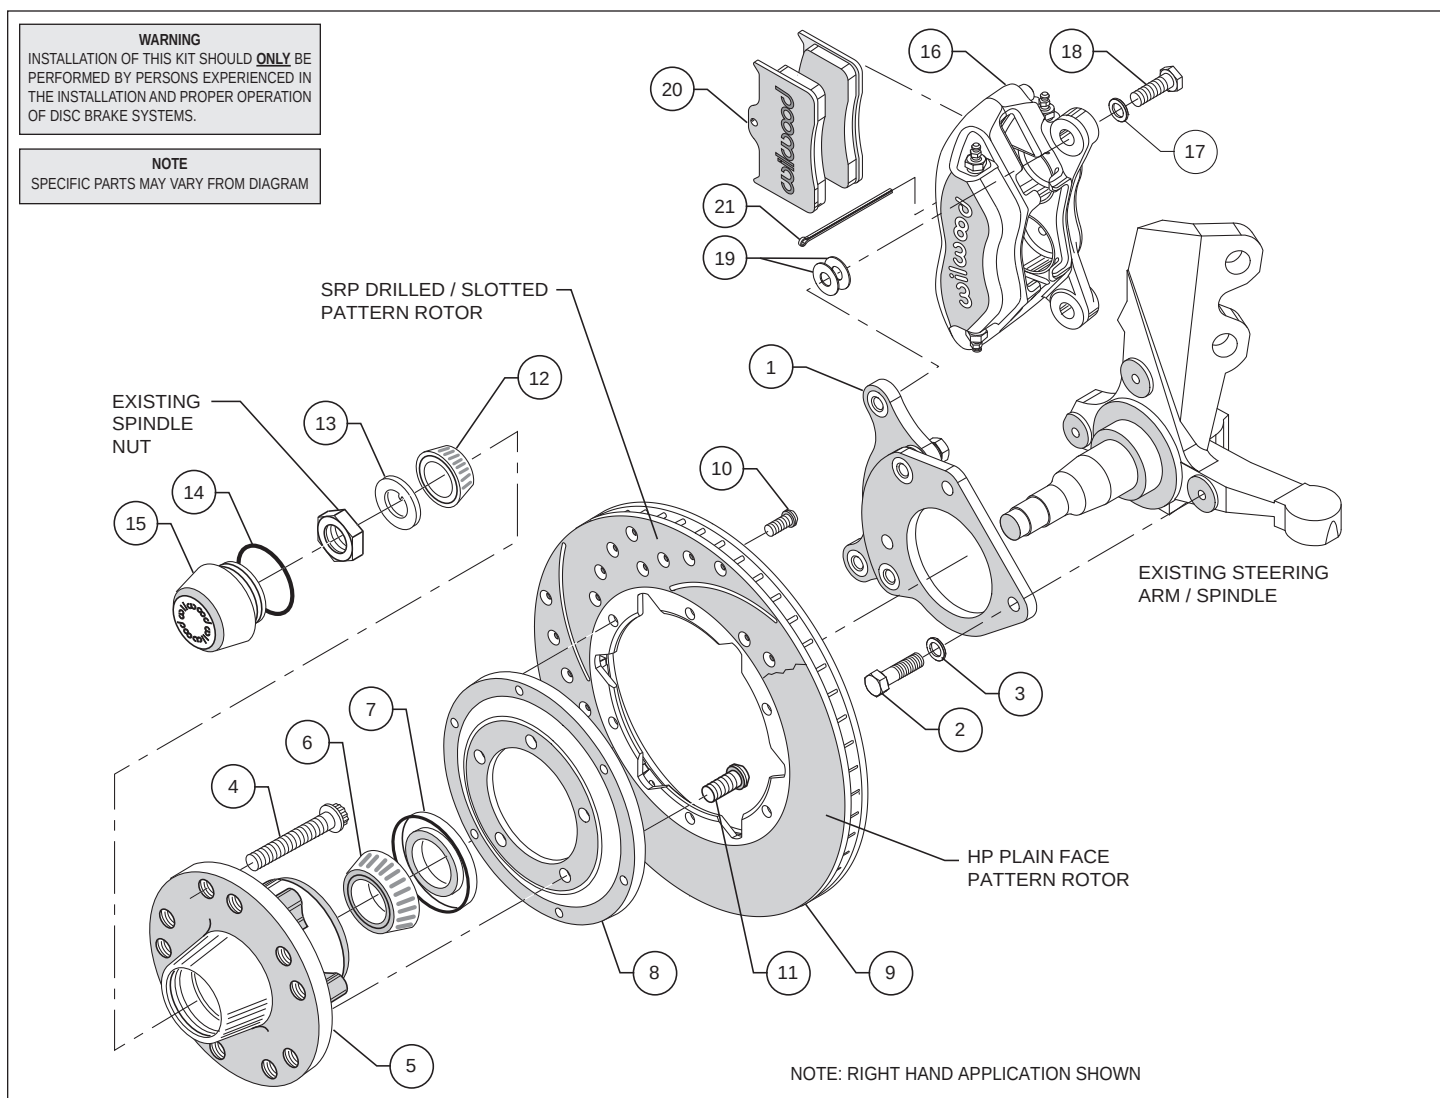

Figure 1. Typical Installation Configuration
Assembly Instructions (numbers in parenthesis refer to the parts list and Figure 1 on the preceding pages): **CAUTION:** All mounting bolts must fully engage clinch nuts. Be sure to check that all bolts are either flush or protruding through flanged side of clinch nut after shimming, Figure 3.
- Align caliper mounting bracket (1) with the corresponding holes, to the face of the spindle and attach using bolts (2) and washers (3), as shown in Figure 1 and Photo 2. Temporarily tighten the mounting bolts. Ensure that the flanged heads of the clinch nuts in the bracket are facing outboard, Photo 2. **NOTE:** The bracket must fit squarely against the mounting points on the spindle. Inspect for interference from casting irregularities, machining ridges, burrs, etc. Remove bolts one at a time, apply red Loctite® 271 to the threads, and torque to 40 ft-lb.
- Orient the rotor (9) and the rotor adapter (8) as shown in Figure 1 and Photo 5. Attach the rotor to the adapter using bolts (10). Using an alternating sequence, apply red *Loctite*® 271 to the threads, and torque to 25 ft-lb.
- Mount the adapter/rotor assembly (8/9) to the hub (5) using bolts (11), as shown in Figure 1 and Photo 6. Using an alternating sequence, apply red *Loctite*® 271 to the threads, and torque to 55 ft-lb.
- Pack the small outer bearing cone (12) with high temperature disc brake bearing grease and install into hub (5). Slide the hub/rotor assembly onto the spindle. Secure using spindle washer (13) and OEM spindle nut, Photo 7. Adjust bearings per OEM specifications. Install saved OEM nut lock (if any) and a new cotter pin (not included).
- Screw dust cap (15) into hub (5), Photo 8. Friction created by the o-ring (14) on the dust cap keeps it from unscrewing. **NOTE:** The O.D. of the existing OEM spindle washer may be larger than the I.D. of the dust cap not allowing it to seat against the hub face. Therefore, use the spindle washer (13) supplied with the kit instead of the OEM washer.
- NOTE:** Please reference the caution statement at the beginning of the assembly instructions. Mount the caliper (16) onto the caliper mounting bracket (1) using bolts (18) and washers (17), as shown in Figure 1. Initially place two .035" thick shims (19) on each bolt between the caliper and the bracket, Photo 9. Temporarily tighten the mounting bolts and view the rotor (9) through the top opening of the caliper. The rotor should be centered in the caliper, Photo 10. If not, adjust by adding or subtracting shims between the bracket and the caliper. Always use the same amount of shims on each of the two mounting bolts. **NOTE:** The end of each bolt must be flush with or slightly protruding from the head of the clinch nut, as shown in Figure 3. If necessary place spare shims between washer (17) and caliper mounting ear to achieve the proper clinch nut engagement. Once the caliper alignment and clinch nut engagement are correct, remove the bolts one at a time, apply red *Loctite*® 271 to bolt threads, and torque to 40 ft-lb.